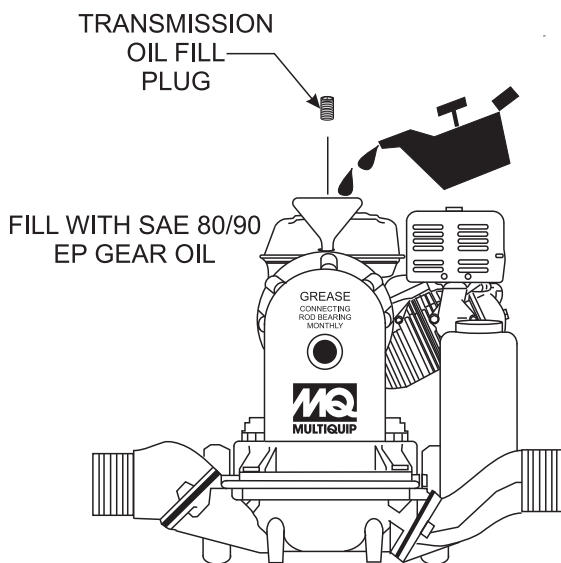

Figure 7. Transmission Oil Level
1. Remove the **transmission oil level plug** (Figure 7). If oil begins to seep out as the plug is being removed, then it can be assumed that the transmission oil is at the proper operating level.